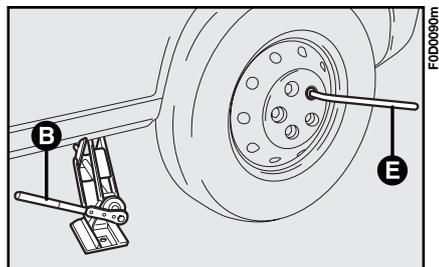

fig. 6
6) Unscrew the five bolts completely using wrench **E**-fig. 6 and remove the wheel.